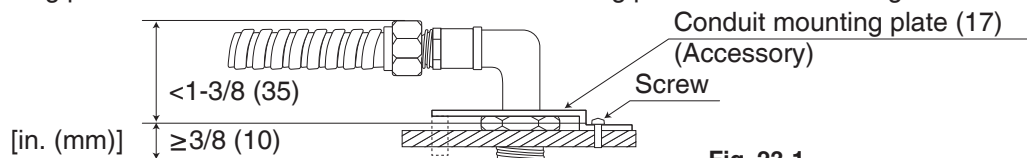
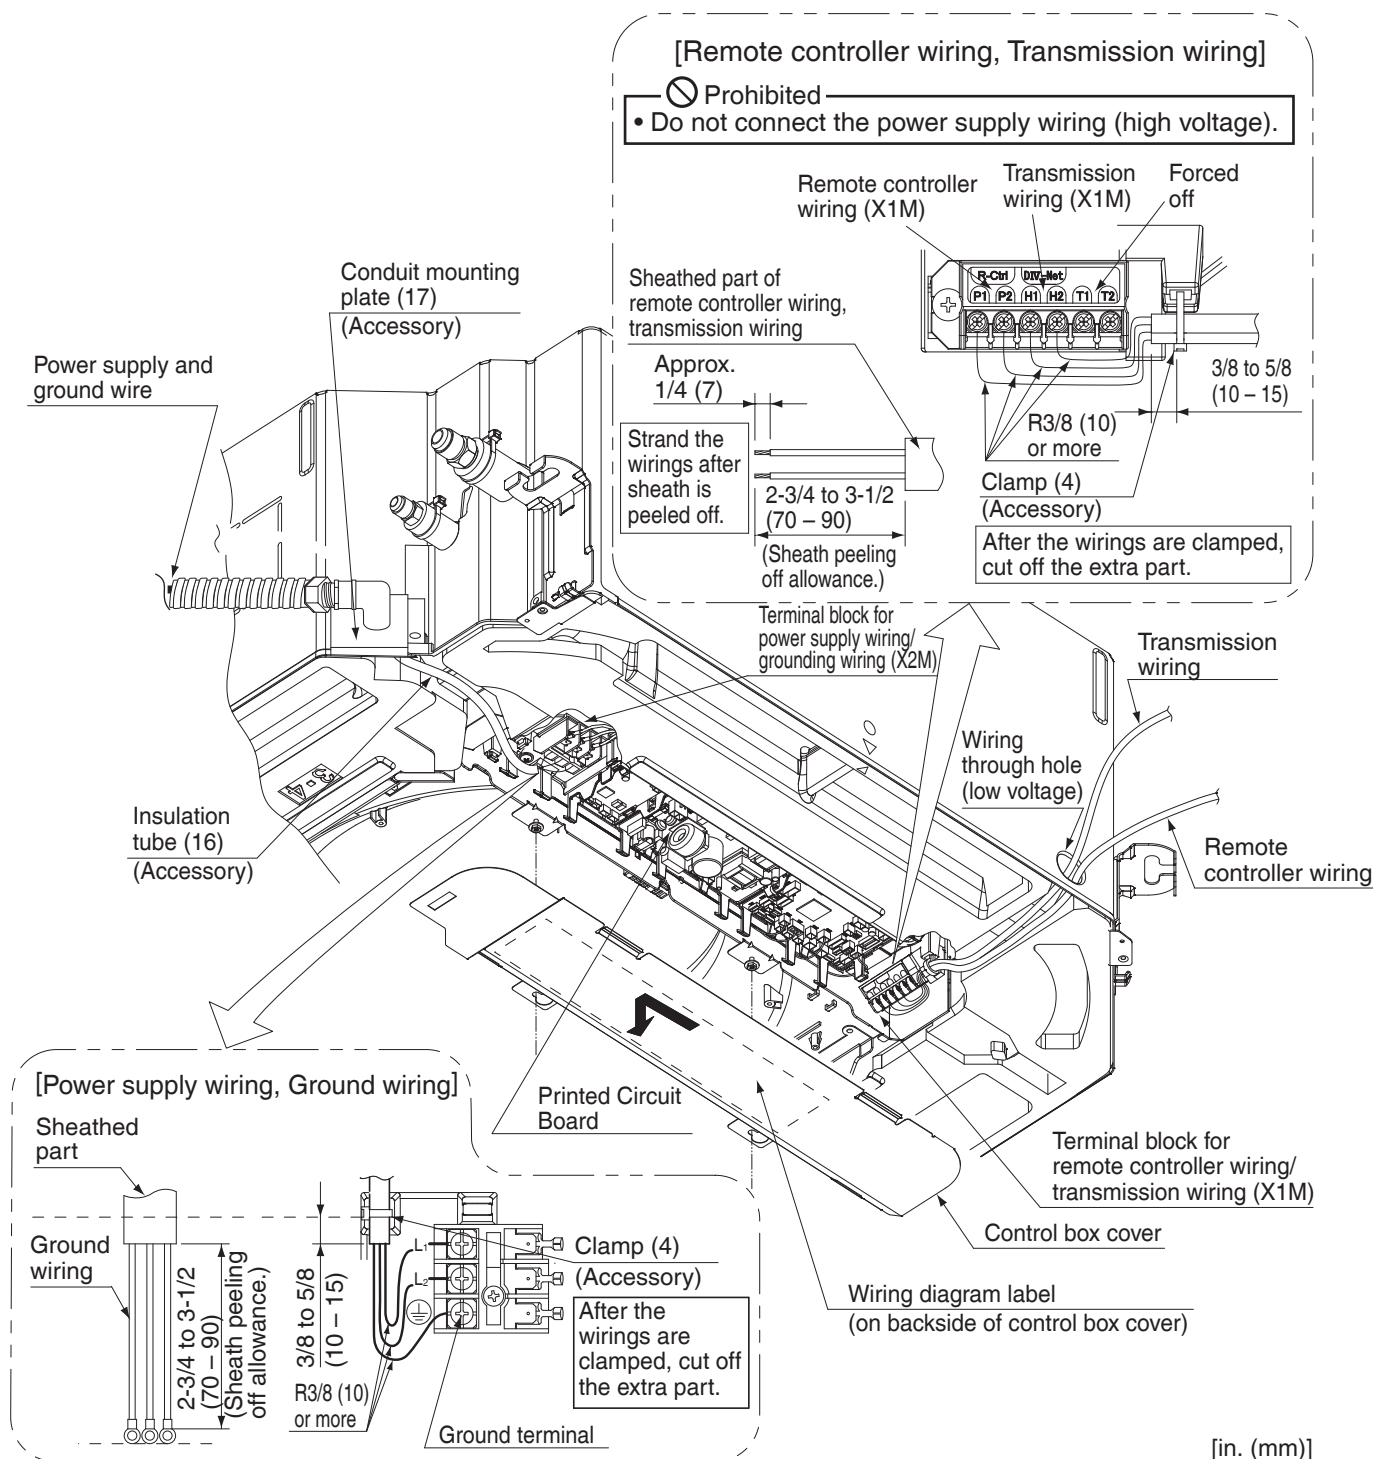

Fig. 23-1
Fig. 23-2
(Refer to Fig. 23-2)
Use a pair of conduit mounting plates (17) to connect a conduit to the unit as shown **Fig. 23-1**. After connecting the power supply wiring to [L₁ · L₂] on the power supply terminal block (X2M) and the ground wiring to the ground terminal, clamp them near the terminal block using the attached clamp (4). **(Refer to Fig. 23-2)**
Pull the wiring through the wiring through hole (low voltage). After connecting the remote controller wiring to [P1 · P2] and the transmission wiring to [H1 · H2] on the terminal block (X1M), clamp them near the terminal block using the attached clamp (4). **(Refer to Fig. 23-2)**
- Use a 90° elbow type of conduit with dimensions **Fig. 23-1** to prevent it from hitting the swing motor housing of decoration panel.